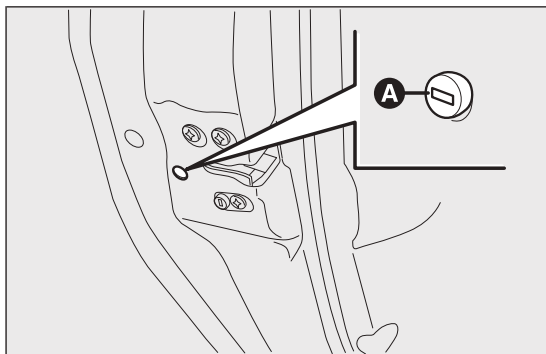

fig. 70
- insert the metal insert of the ignition key into housing A fig. 70;